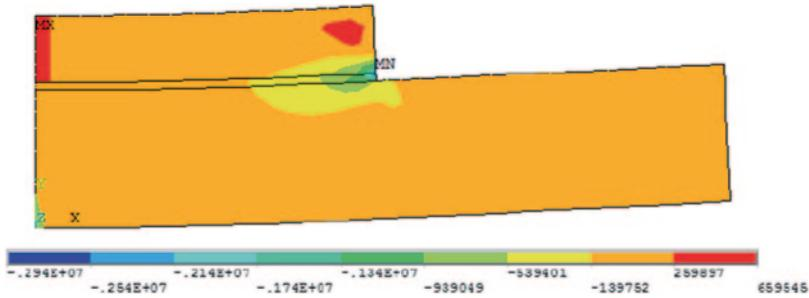

Fig. 9.55 Contour plot of the shearing stress due to thermal loading at load step 1, substep 10
- Repeating this procedure for shear stresses, the contour plot appears, as shown in Fig. 9.55.